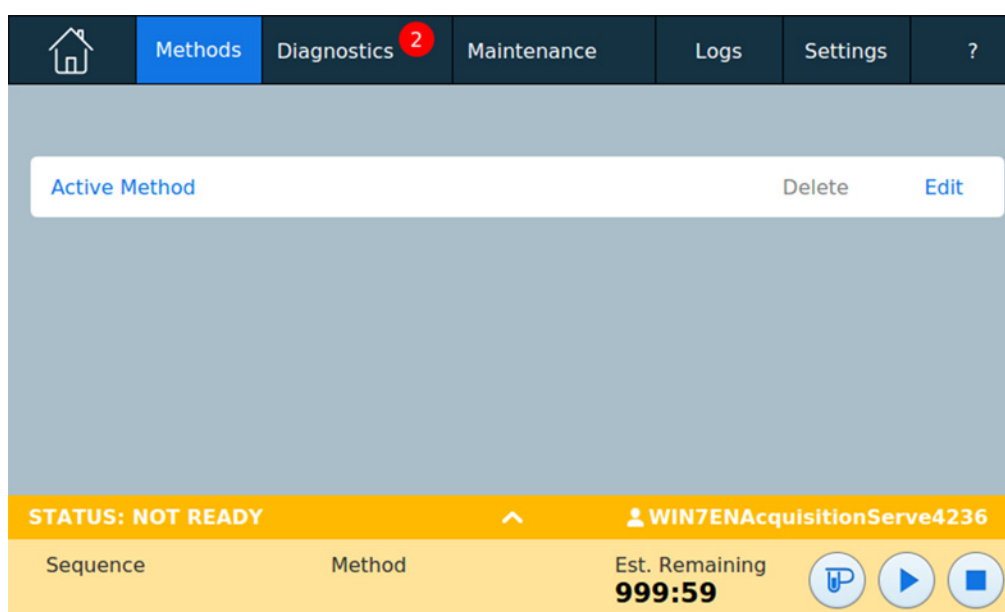

Figure 21 Methods view
- 1 On the touch screen, touch **Methods**. The Methods view appears. See Figure 21.